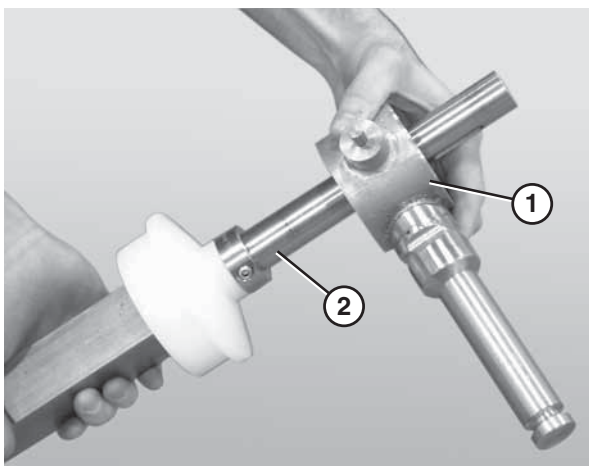

Figure 76
5. Slide the second bearing shaft assembly, or the motor mount bracket (**Figure 76, item 1**), onto the longer end of the drive spindle (**Figure 76, item 2**).